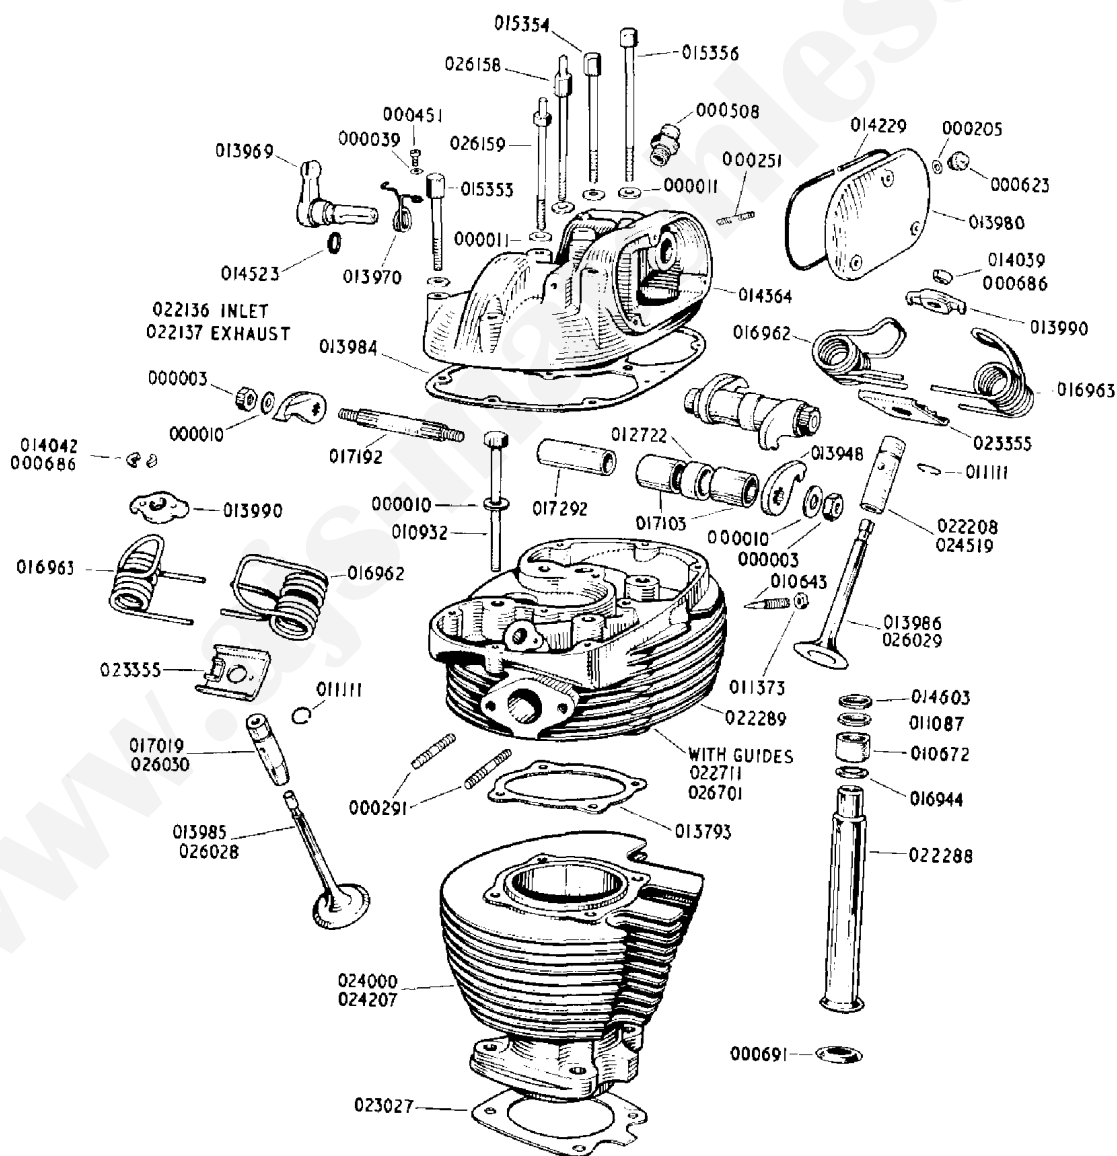

FIG. 21
**Dismantling the rocker box.** It is best to refer to Fig. 21 to understand the assembly sequence of the parts used in the rocker box. To dismantle, place a box spanner (that will fit the nut 000003) firmly in a vice. Invert the rocker box, place one of the two rocker spindle nuts into the box spanner. Using an open end spanner release and remove the rocker axle nut inside the rocker box.
The general arrangement of this engine is shown in Figs.21/22. The standard and sports version are similar in respect of engine design. The bottom part of the engine, excluding the flywheels, is similar to the earlier type engine.